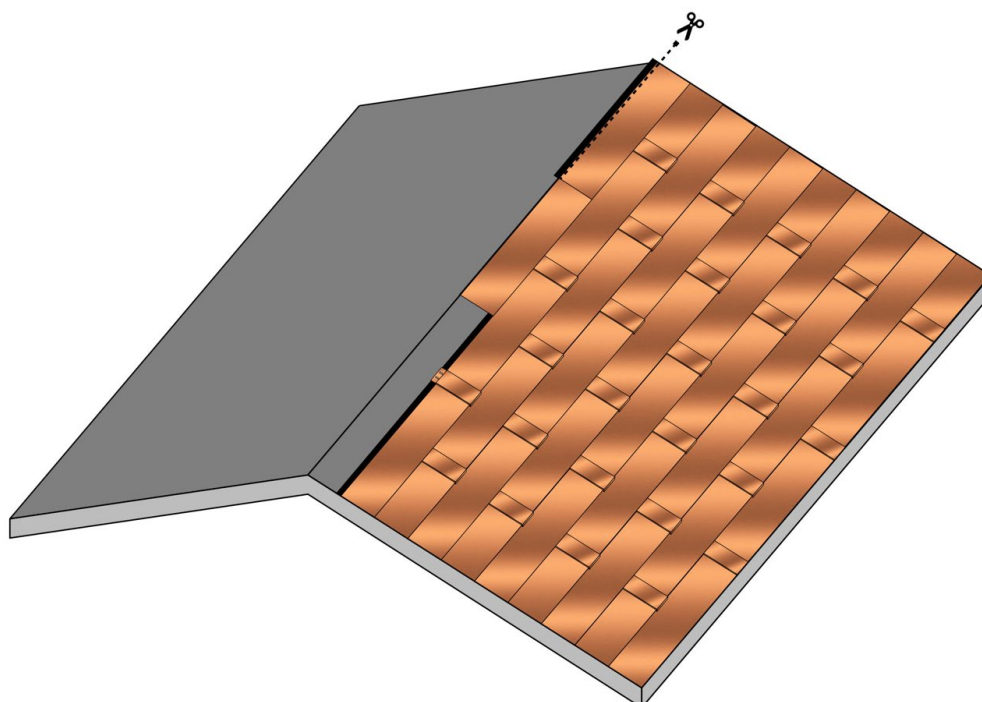

Fig. 23 - Shingles installation until the ridge
- Repeat the same steps for installation of the bituminous shingles in rows, until the entire pitch is covered, leaving the last 10 cm of bituminous membrane at the ridge exposed. If necessary, cut the top of the last row of shingles - Fig. 23.